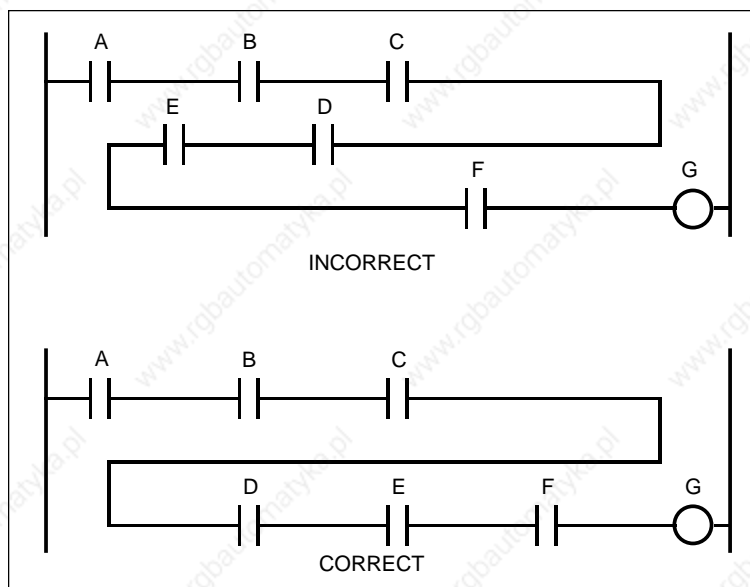

Figure 13. Logic Can Only Run Left to Right through Contacts
- Logic can only flow from left to right through contacts (see Figure 13).